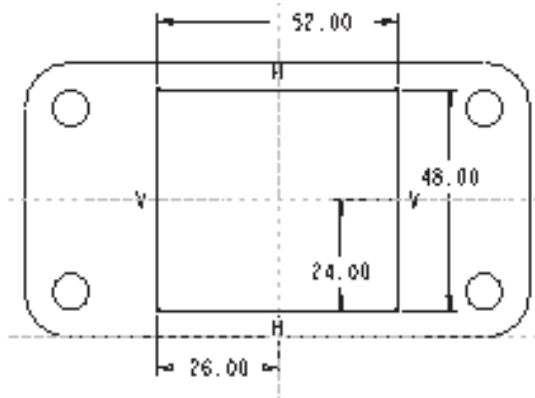

Figure 6-45 Sketch for the cut feature with dimensions
5. After you enter the sketcher environment, draw the sketch and dimension it as shown in Figure 6-45.